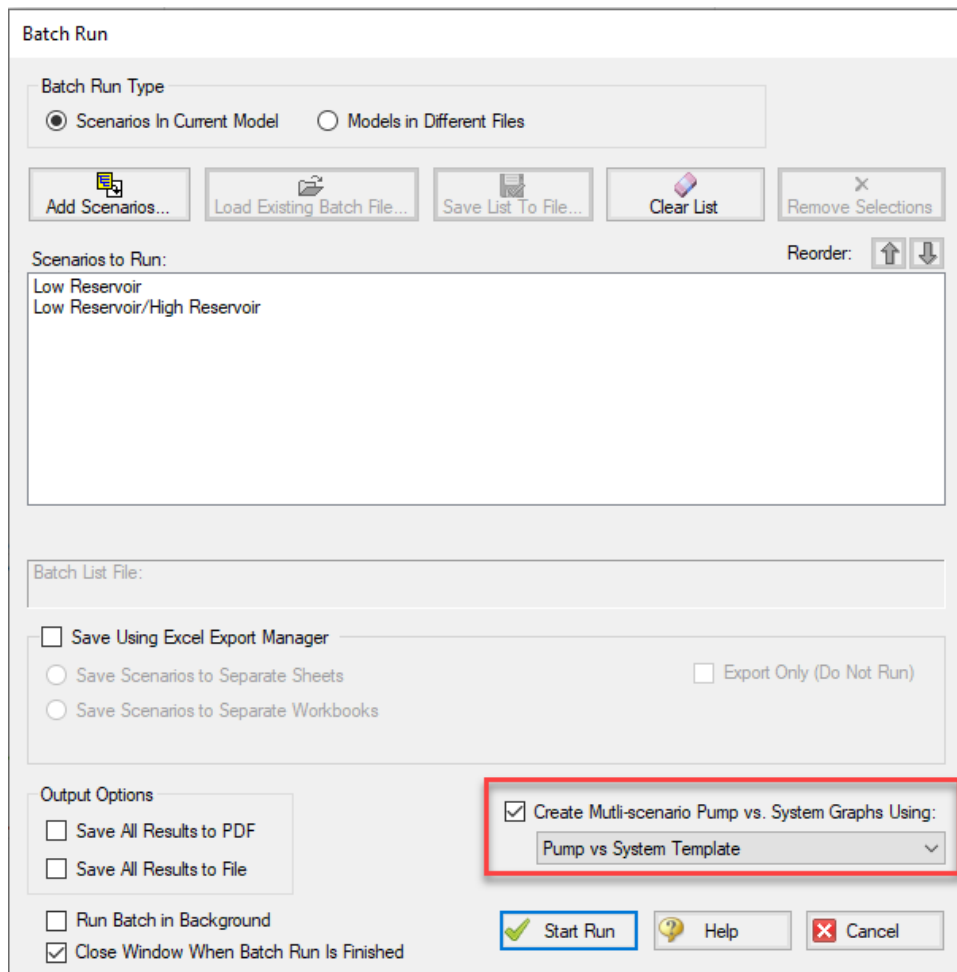

Figure 6: Multi-scenario batch run option enabled in the Batch Run window
2. Launch the Batch Run window found in the File menu. Select the option to have the Batch Runs create Multi-Scenario Pump vs. System curves, and select the template Pump vs. System curve as shown in Figure 6. If you have multiple templates, all options will be shown for selection.